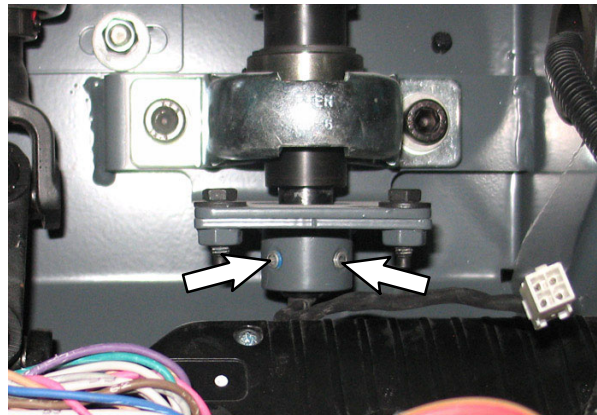
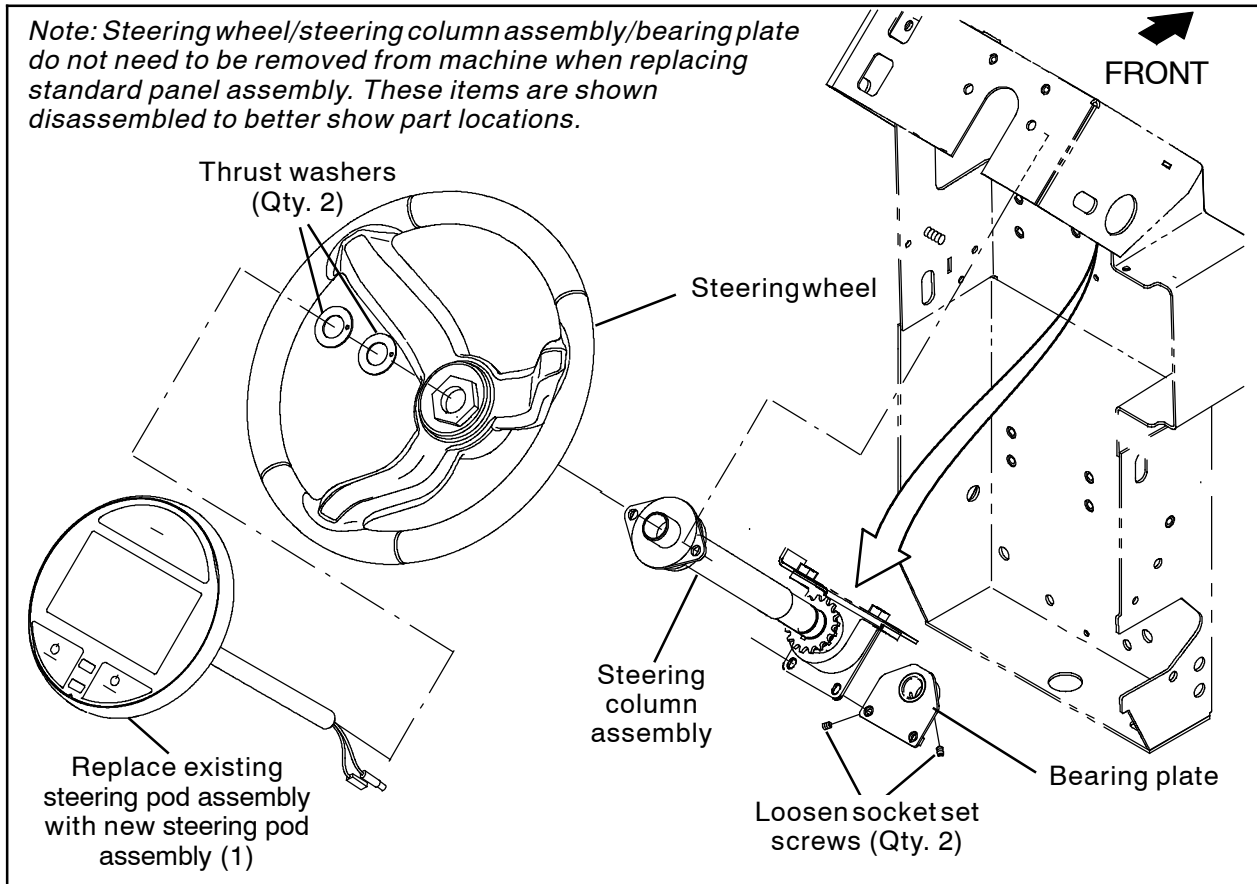

FIG. 5
FIG. 6
2. Loosen the socket set screws in the bearing plate securing the pod assembly to the steering column assembly. (Fig. 5/ Fig. 6)
3. Pull the pod assembly out from the steering wheel/steering column assembly. (Fig. 6)
4. Remove the thrust washers from the removed pod assembly and slide the thrust washers onto the new pod assembly (1). Discard the removed pod assembly. (Fig. 6)
5. Insert the new pod assembly (1) into the steering assembly. (Fig. 6)
6. Orient the pod assembly (1) so the display is positioned correctly in the steering wheel and tighten the socket screws to secure the pod assembly into the bearing plate. (Fig. 5/ Fig. 6)